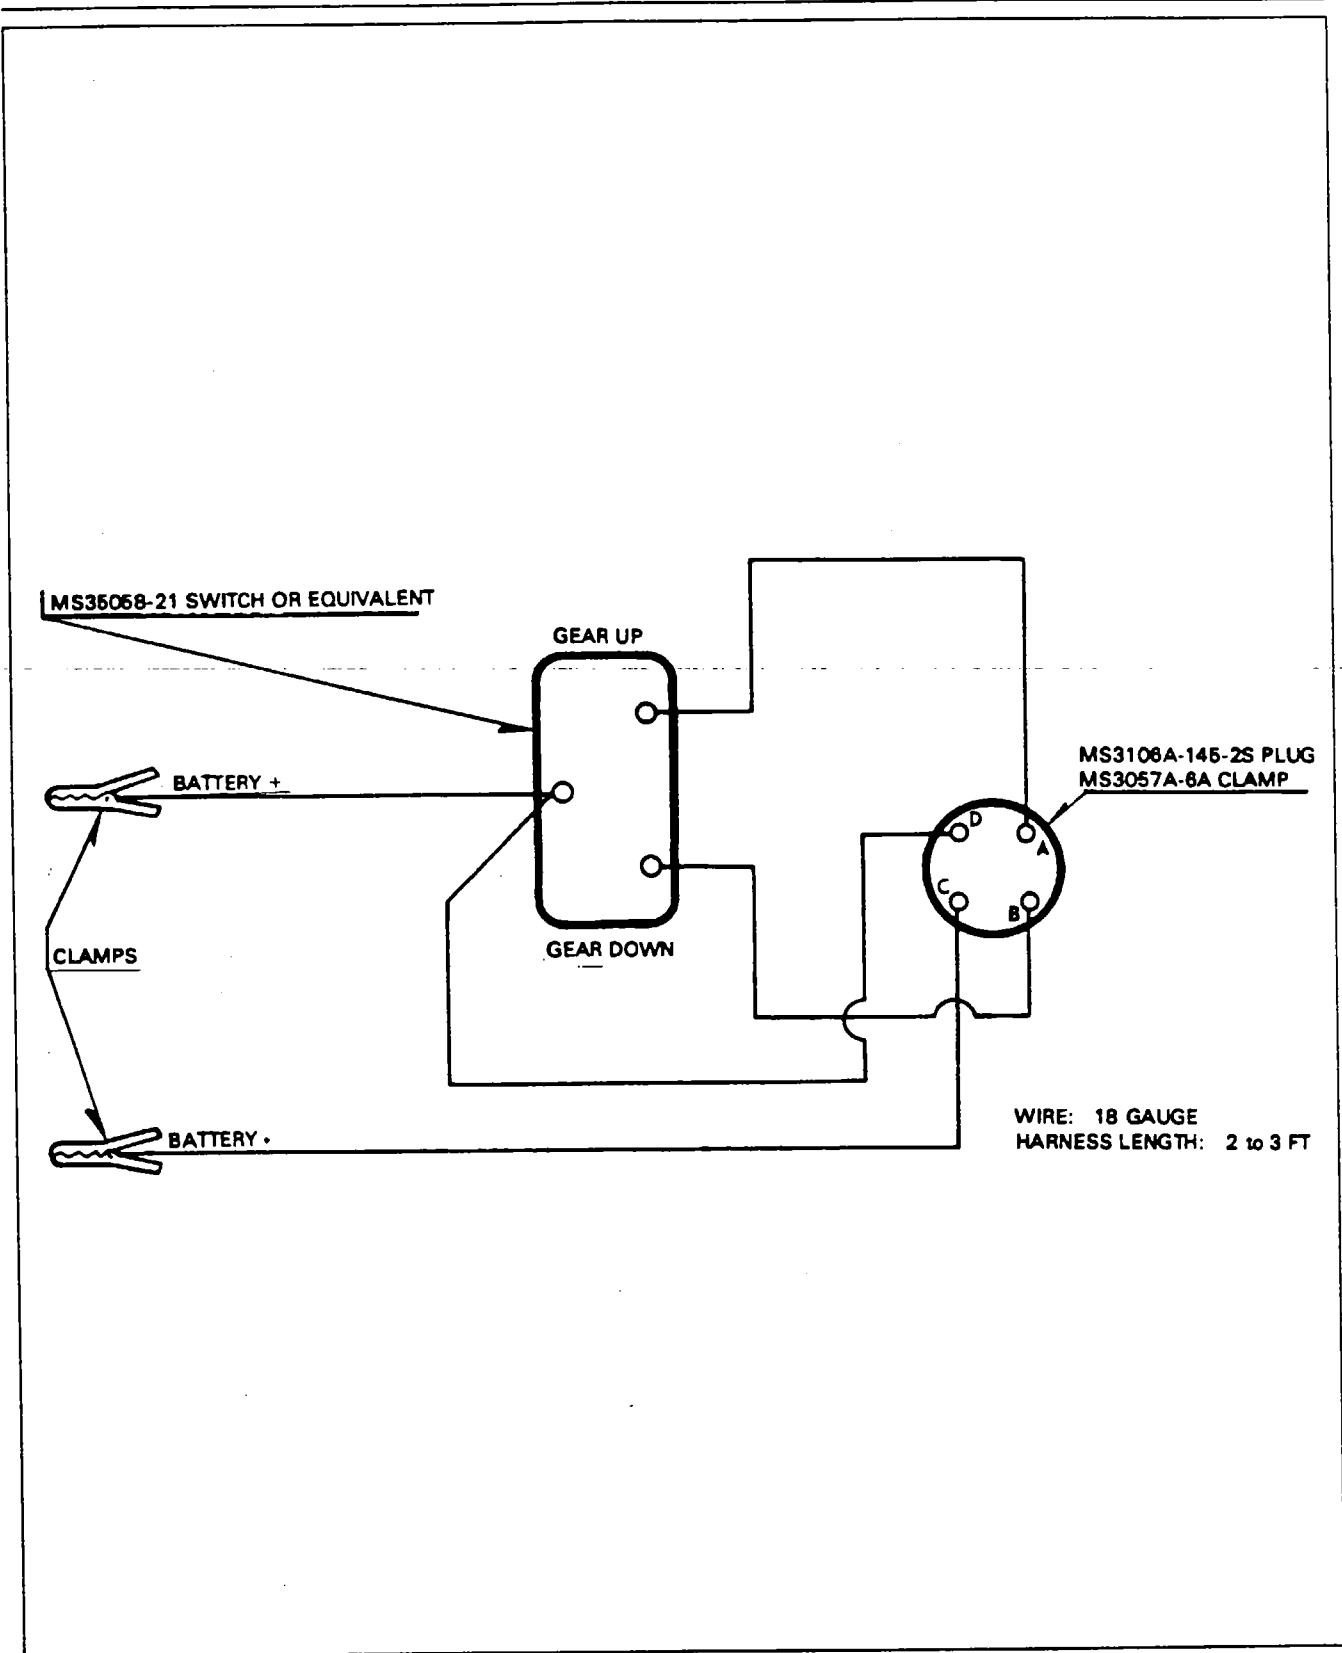

Figure 29-11. Power Pack Test Harness Schematic
For the control of the door valve solenoid, it will be necessary to fabricate an electric harness as shown in Figure 29-11. This harness, when connected to a 24-volt battery will allow control of the electrical current to the door valve solenoid, permitting operation of the hydraulic door circuits.
2. Connect a test harness to the electrical plug of the Power Pack and to power source. (Test harness may be fabricated as shown in Figure 29-11.)